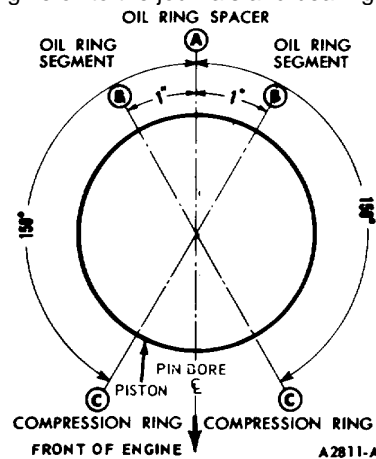
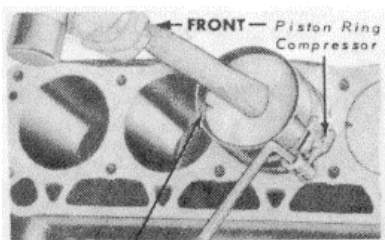
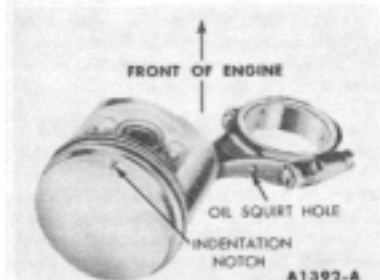

FIG. 51 Piston Ring Gap Spacing
FIG 52 Piston Installed
FIG 54 Typical Piston and Connecting Rod Assembly
4. Make sure the ring gaps are properly spaced around the circumference of the piston (Figure 51). Install a piston ring compressor on the piston and push the piston in with a hammer handle until it is slightly below the top of the cylinder (Figure 52). Be sure to guide the connecting rods to avoid damaging the crankshaft journals. Install the piston with the notch in the dome of the piston toward the front of the engine (Figure 54).